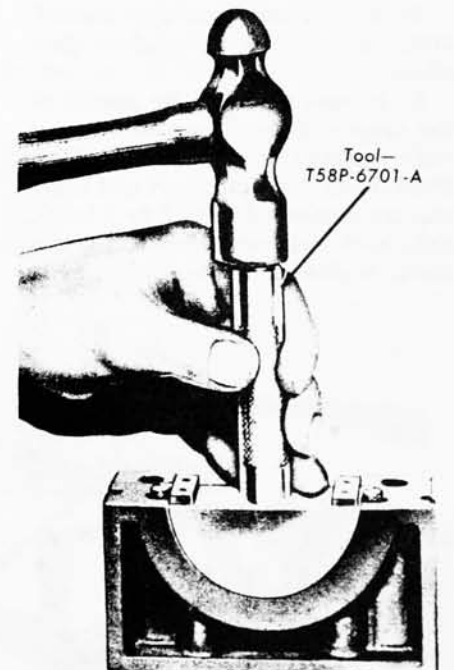

FIG. 37—Seal to Rear Bearing Cap Installation
1. Be sure that the rear journal oil seal grooves are clean. Install a new rear journal oil seal in the block (Fig. 36) and rear main bearing cap (Fig. 37). After installation, cut the ends of the seals flush.